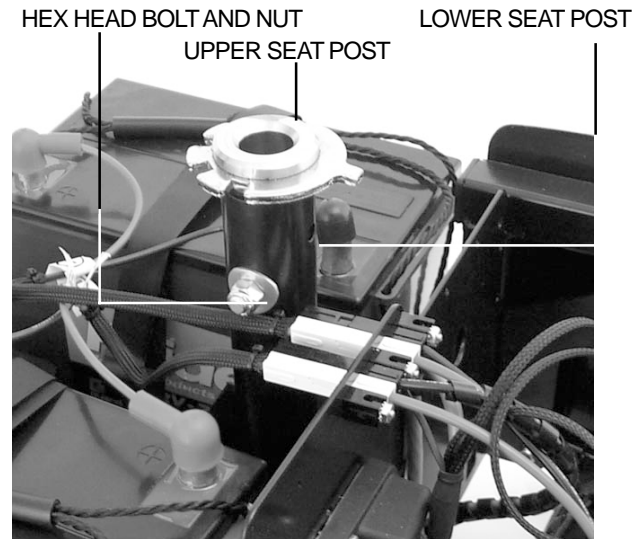

Figure 15. Seat Height Adjustment
3. Use two 17-mm wrenches to loosen and remove the hex head bolt and nut. See figure 15.